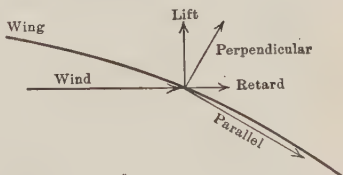

FIGURE 547. — FORCE DIAGRAM OF AN AIRPLANE.
The wings of an airplane are curved or slanted to set at a small angle with the horizontal (Figure 546). The engine drives a propeller, which resembles an electric fan. This propeller pushes a stream of air backward, but the reaction of the air against the blades of the propeller drives the plane forward with an equal force. This forward force gradually overcomes the inertia of the mass of the plane, and the plane moves slowly forward along the ground. The tilted wings, in moving forward, tend to push the air forward and downward; the reaction of the air against the wings tends to move them upward and backward. The backward motion is prevented by the drive of the propeller, but the upward component of the air's reaction (Figure 547) increases as the speed of the
17. The tilted wing of an airplane is driven horizontally through the air (Figure 547, page 623). Show the horizontal motion of the air with reference to the wing and indicate the component of the force of the air that supports the airplane.